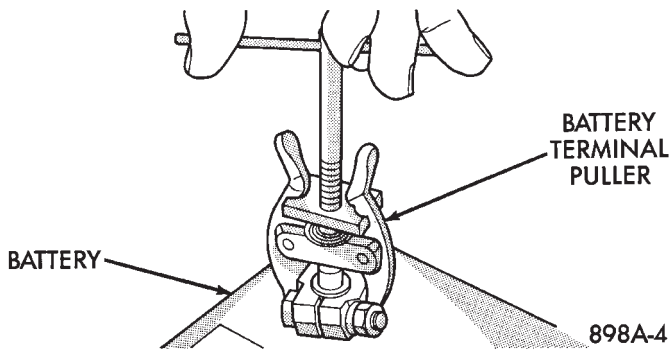

Fig. 16 Remove Battery Cable Terminal Clamp - Typical
(1) Turn the ignition switch to the Off position. Make sure all electrical accessories are turned off.
(2) Loosen the cable terminal clamps and disconnect both battery cables, negative cable first. If necessary, use a puller to remove the terminal clamps from the battery posts (Fig. 16).